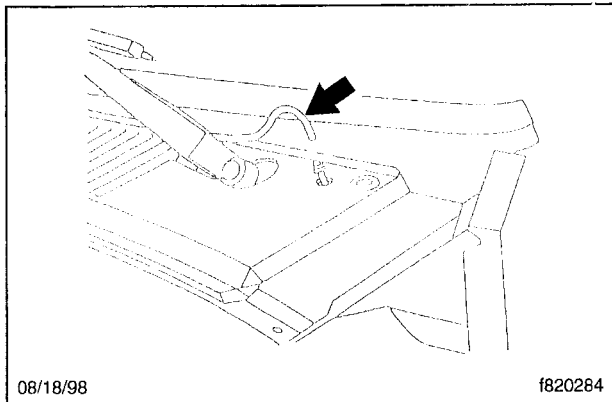

Fig. 2, Windshield Washer Hose
- 6.1 Disconnect the washer hose. See **Fig. 2**.
- 14.3 Connect the washer hose. See **Fig. 2**.